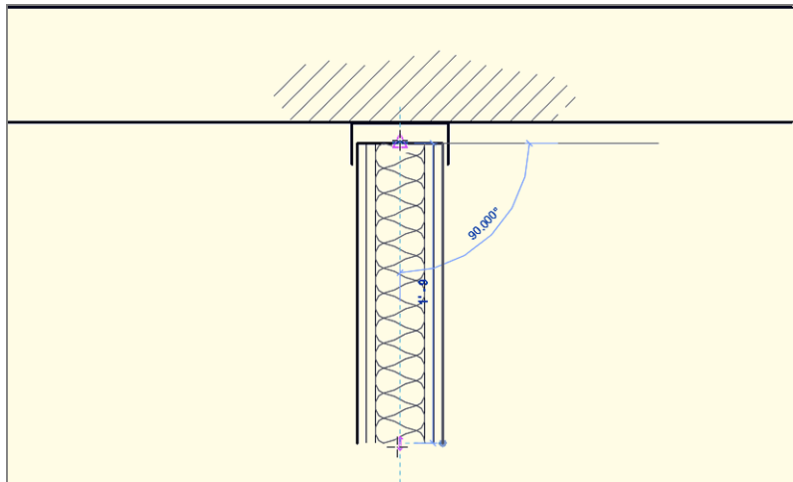

FIGURE 12.70: Drawing the insulation
5. Place the insulation starting at the midpoint of the top of the stud, and terminate the insulation at the bottom of the stud, as shown in Figure 12.70. You're lucky the width fits perfectly. If it didn't, you could change the width on the Options bar.